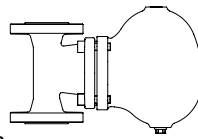

Fig. 631
- (Fig. 631....1) Grey cast iron
- (Fig. 631....2) SG iron
- (Fig. 631....3) Cast steel /
- (Fig. 631....4) Forged steel